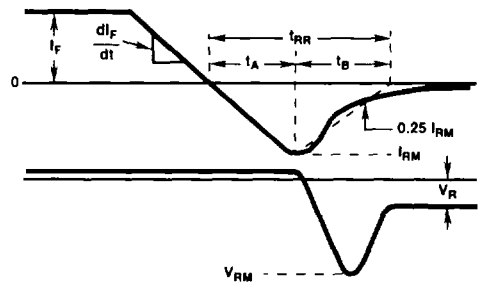

FIGURE 2.  $t_{RR}$  WAVEFORMS AND DEFINITIONS
- $t_{RR}$  = Reverse recovery time (See Figure 2), summation of  $t_A + t_B$ .
- $t_A$  = Time to reach peak reverse current (See Figure 2).
- $t_B$  = Time from peak  $I_{RM}$  to projected zero crossing of  $I_{RM}$  based on a straight line from peak  $I_{RM}$  through 25% of  $I_{RM}$  (See Figure 2).